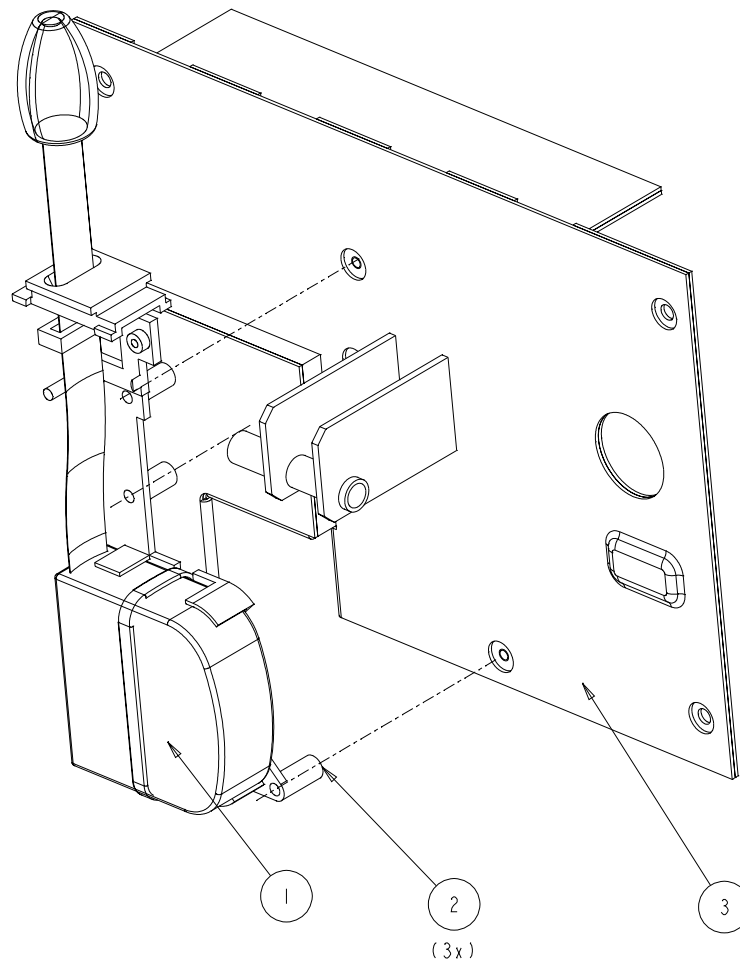

Figure 16: Replace Mechanical Ruler
2. Remove mechanical ruler assembly (item 1, Figure 16) from the ruler Side-plate (item 3, Figure 16), by loosening the three screws (item 2, Figure 16)